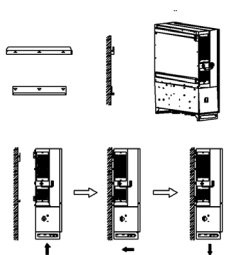

Figure 4: Installation AS-IC01-40000 to 70000
2. Fix the expansion bolts into the 4/6 holes with a hammer; Fix the installation bracket on the bolts and ensure it is firm enough (as shown in figure 4 below).
3. Hang the inverter on the installation bracket and ensure it is locked-in as shown in figure 4; fix the screws into the screw-holes to ensure that the installation is fastened